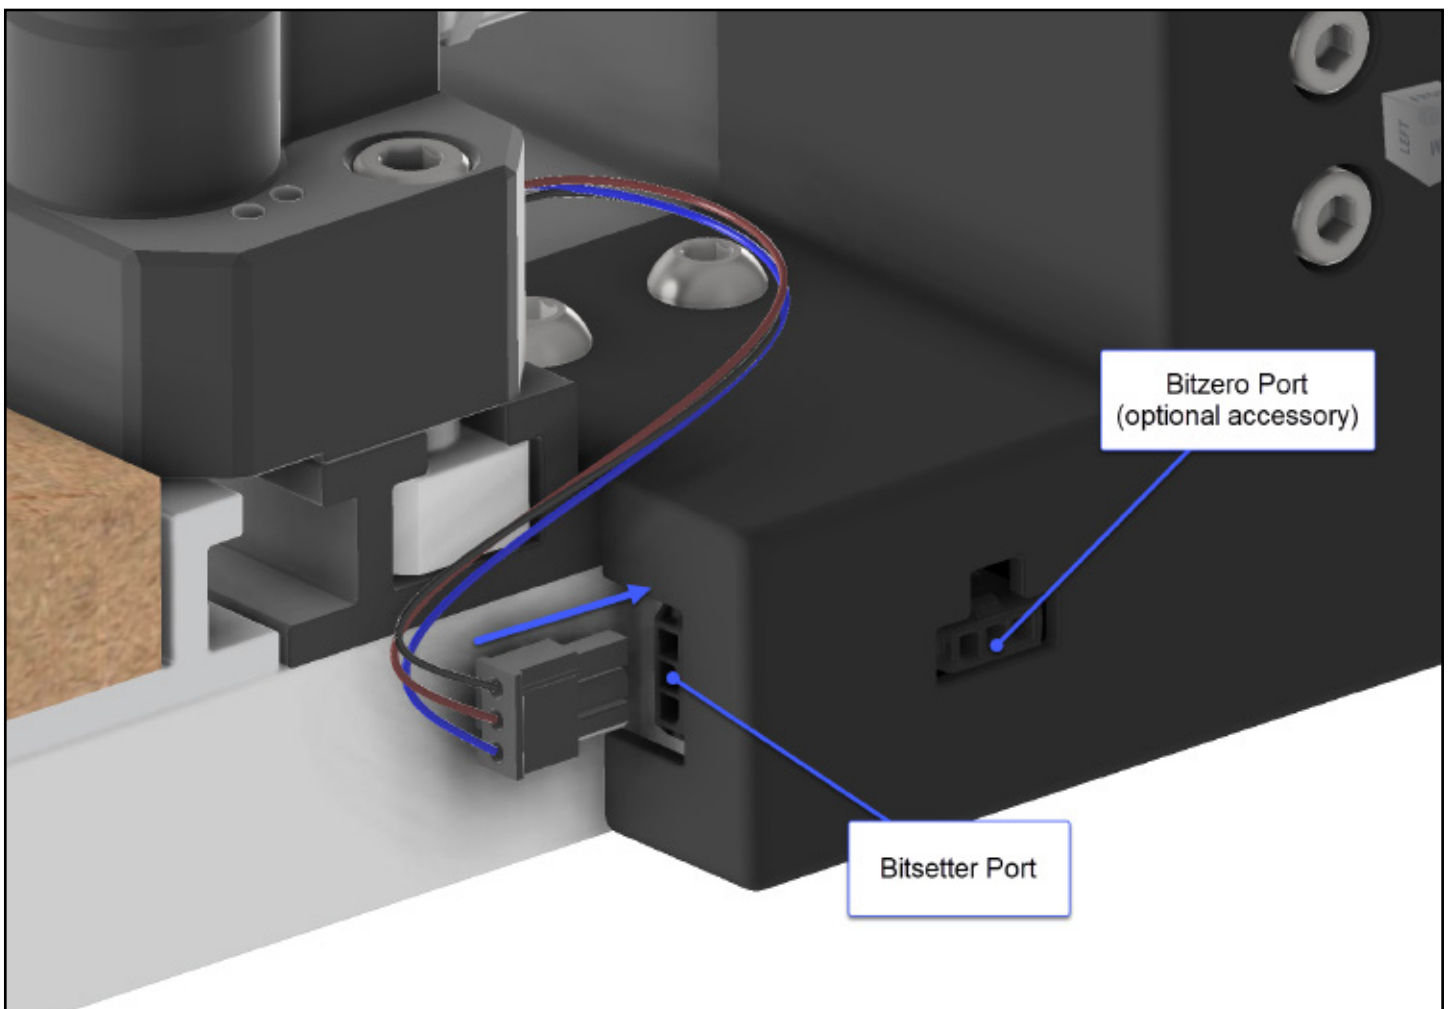

Figure 6-3
4. Use a 5mm hex key to loosely insert two (2) M6×30mm SHCS through the top of the BitSetter and into the Teez Nuts. See **Fig. 6-3**.
7. Plug the other end of the 3-pin extension cable into the 3-pin port on the BitSetter. See **Fig. 6-3**.